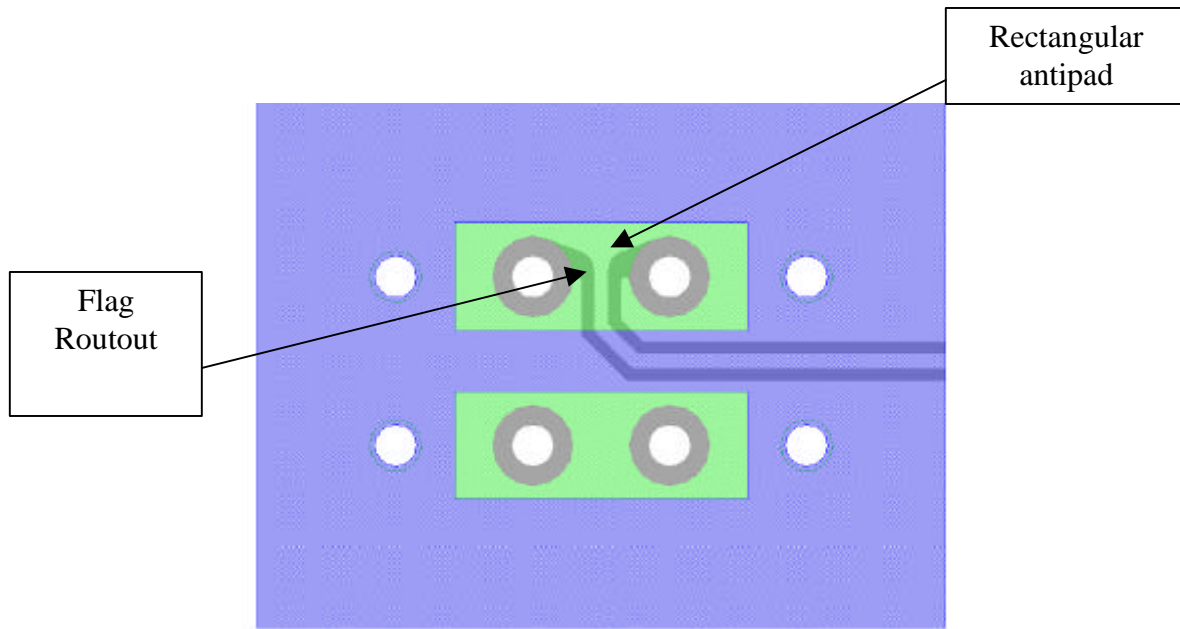

Fig. 5. Standard data lines: flag routout, rectangular antipad, – layers S1, S2, S7, S8
The connectors labeled J1 and J2 represent the 8-inch channel group. The outbound (TX) channels (as in Fig. 5) are on layer 3 (S1), where the thru-hole is optimized with **backdrill of 15 mil below layer 6**. The inbound (RX) channels are on layer 18 (S8). The TX and RX pin map is as follows:
The connectors labeled J3, J4, J73 and J74 represent the 15-inch channel group. The connectors J3 and J4 are the outer distal lanes, while J73 and J74 are the pass-thru traffic lanes. On the distal lane, outbound (TX) channels (as in Fig. 5) are on layer 3 (S1), with worst-case stub. The inbound (RX) channels are on layer 18 (S8). The TX and RX pin map is as follows: